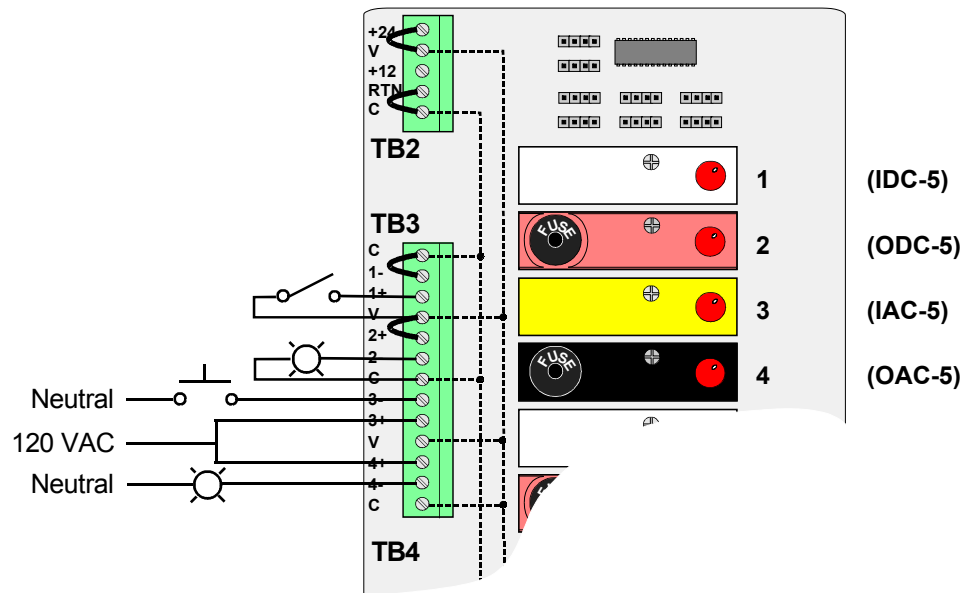

Figure 1, I/O Power Bus Wiring Example
Power Bus is not required. Refer to the following instructions for connecting a power supply to the I/O Power Bus, refer to **Figure 1**, and the DIO Board Power Terminal Block - TB2 section of the Specifications section of this chapter (page 78) for further information.
- 1) Connect the high side of the power supply (AC or DC) to be used for I/O wiring to the V input on TB2. This terminal is connected to all the V pins on TB3 - TB6. If you are using the ORION Field Power supply, simply place a jumper wire between the +24 and V pins on TB2 (as shown in **Figure 1**).
- 2) Connect the common of the power supply (either AC or DC) to be used for I/O wiring to the C input on TB2. This terminal is connected to all the C pins on TB3 - TB6. If you are using the ORION Field Power supply, simply place a jumper wire between the RTN and C pins on TB2 (as shown in **Figure 1**).